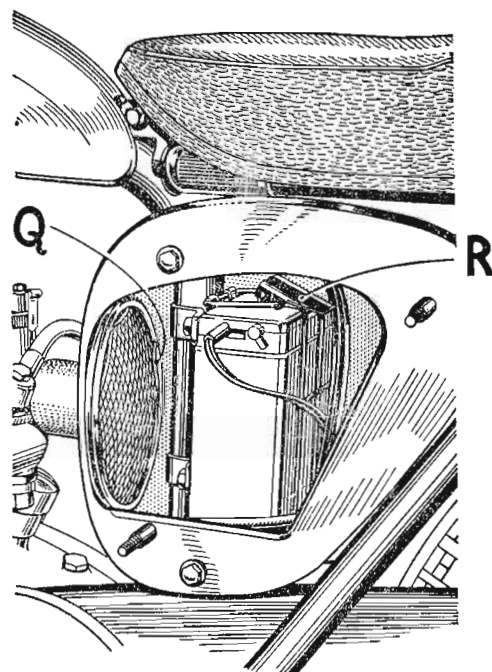

Fig. 11. Air cleaner and battery box.
The air cleaner is contained within the housing below the seat. At 1,000 mile intervals remove the two screws retaining the cover, which should then be taken off (Fig. 11). Prise out wire circlip (Q) thus releasing the perforated cover and filter element. Wash the element in petrol, and dry thoroughly before replacing.